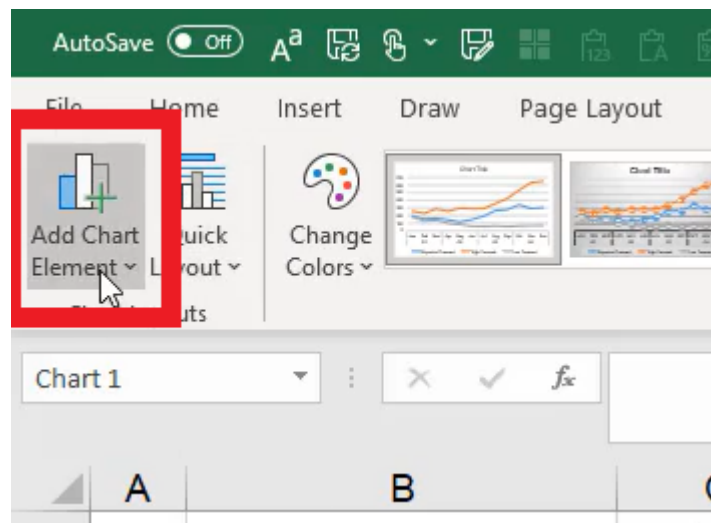

Figure 37.11
1. Select **Chart Design**. See **Figure 37.11**)